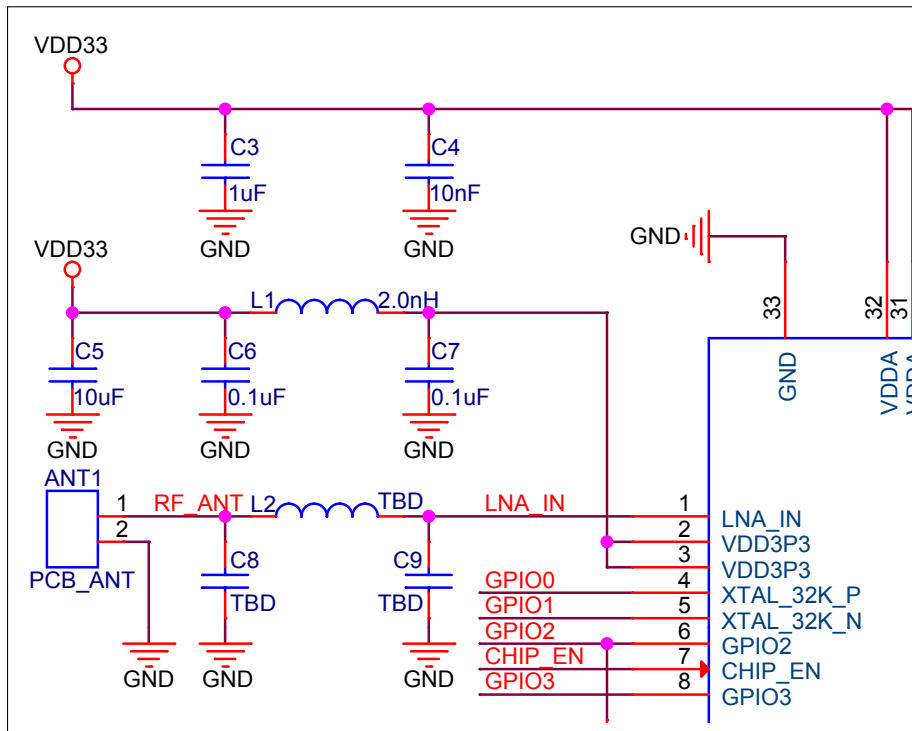

Figure 3: ESP32-C3 Family Analog Power Supply Pins
Pin 2, pin 3, pin 31, and pin 32 are the analog power supply pins, working at 3.0 V ~ 3.6 V. Please note that when ESP32-C3 family works in transmission (TX) mode, the instantaneous current is higher and may cause a power rail collapse. Therefore, it is highly recommended to add a 10 μ F capacitor to the power trace, which can work in conjunction with the 0.1 μ F capacitor. In addition, a LC filter circuit needs to be added near pin 2 and pin 3 to suppress high-frequency harmonics. The inductor's rated current is preferably 500 mA or above. Refer to Figure 3 and place the appropriate decoupling capacitor near each analog power pin.